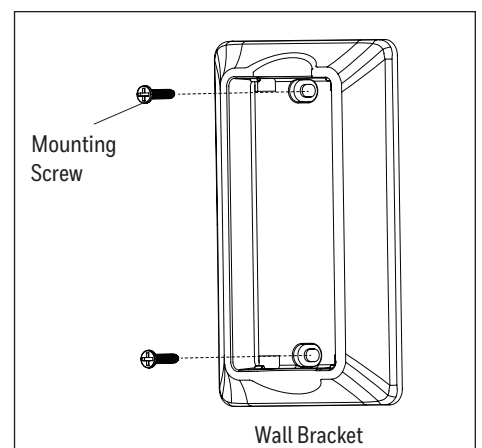

Figure 5.9
- If desired, the wall bracket in remote pack can be installed to a wall using the provided mounting screws. The remote can be stored in the wall bracket for easy access (Figure 5.9).